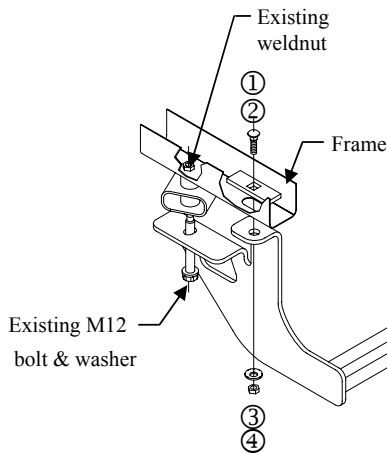

Figure 1.
3. Raise hitch into position as shown in Figure 1. Feeding the pull wires through the rearward holes on the bracket. Locate the driver's side bracket in position first near the forward exhaust hanger. If necessary to get the passenger's side into position, loosen the exhaust hanger on the passenger's side this will allow the exhaust bracket move side to side.